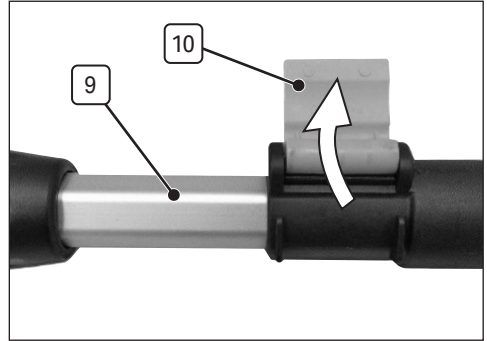

Fig. 3
6.2 Adjusting the Telescopic Pole Length (Fig.3)